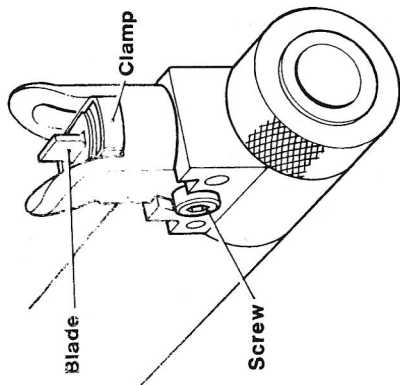

FIG. 5. FORESIGHT
- 3.1 Foresight (Fig 5 and 5a) Two types of foresight have been fitted.
- 3.1.2 Type 1 (Fig 5)